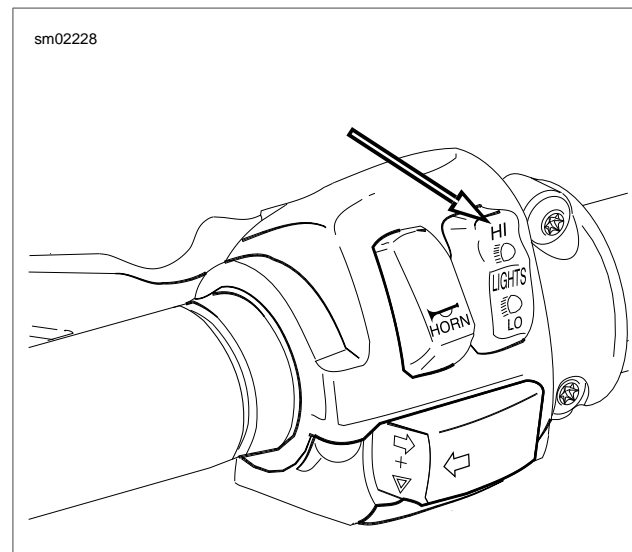

Figure 1-47. Headlamp Switch High Beam Setting
7. See Figure 1-47. Turn ignition switch ON. Set handlebar headlamp switch to HIGH beam position.